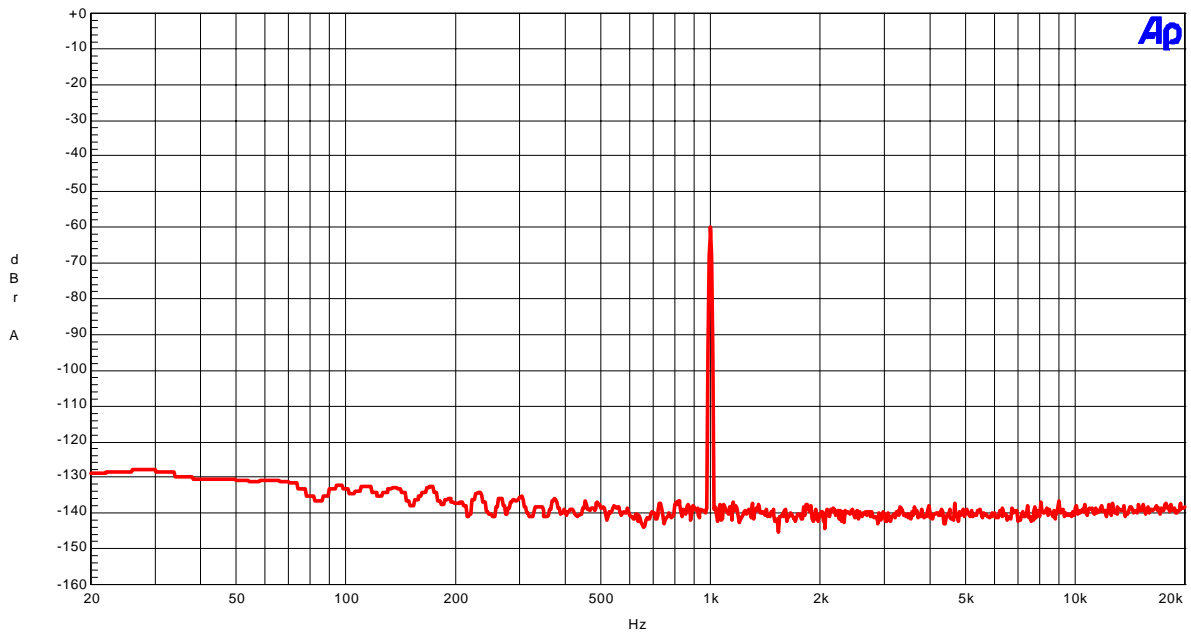

Figure 7 . FFT (1kHz, -60dBFS input)
- Figure 7 . FFT (1kHz, -60dBFS input)